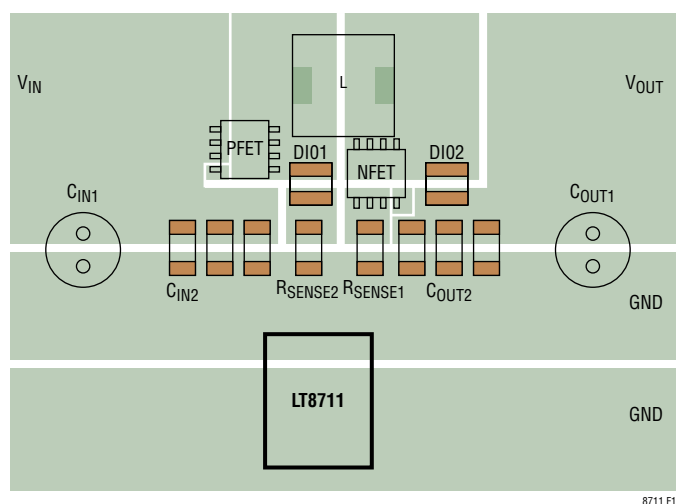

Figure 17. Suggested Component Placement for Buck-Boost Topology
- Route the CSP/CSN and ISP/ISN lines differentially (close together) from the chip to the current sense resistor as shown in Figure 17.
- Place the vias that connect the CSP/CSN and ISP/ISN lines directly at the terminals of the current sense resistor as shown in Figure 17.